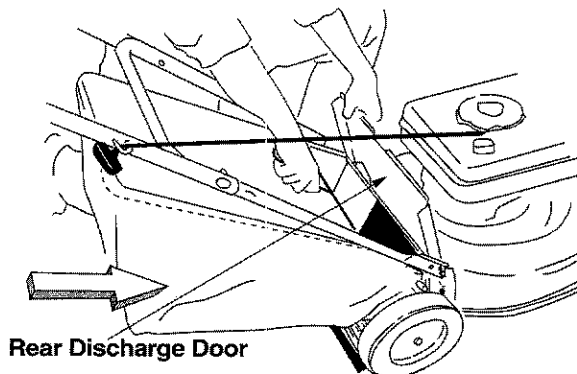

Figure 13
- Place the hooks of the grass catcher into the slots in the handle bracket assemblies on both sides. See Figure 13. Release the rear discharge door.
- Release the rear discharge door. See Figure 13.